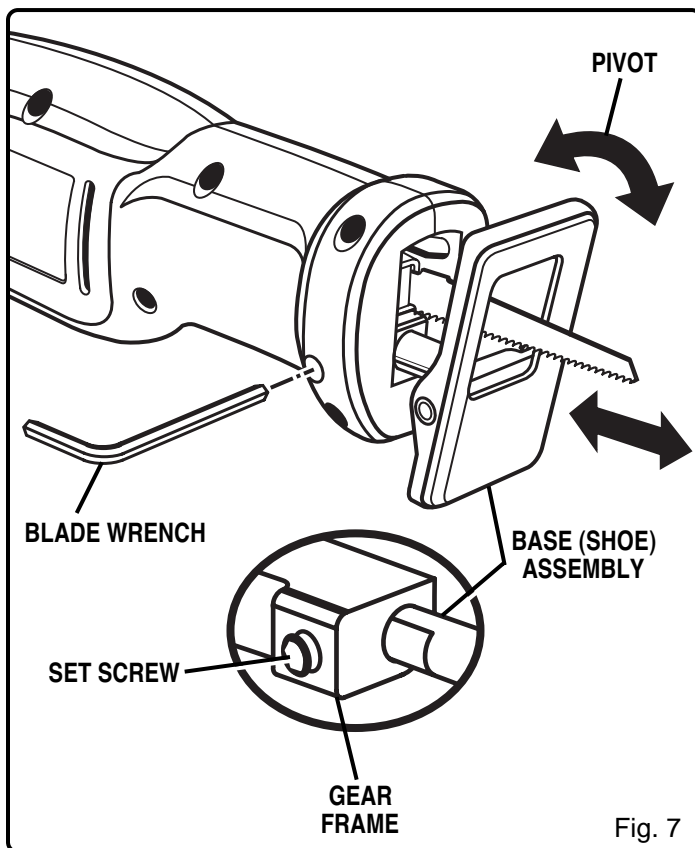

Fig. 7
See Figure 7.
- Loosen the set screw in the gear frame with the blade wrench provided with this saw. See Figure 7.